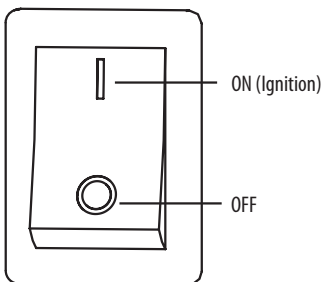

Figure 15
5. If equipped with an emergency stop control switch, make sure that the emergency stop control is set to the ON position, represented by the solid line while attempting to start the engine. See Figure 15.
To stop the running engine using the emergency stop control, move the switch to the OFF position, represented by the circle. See Figure 15.